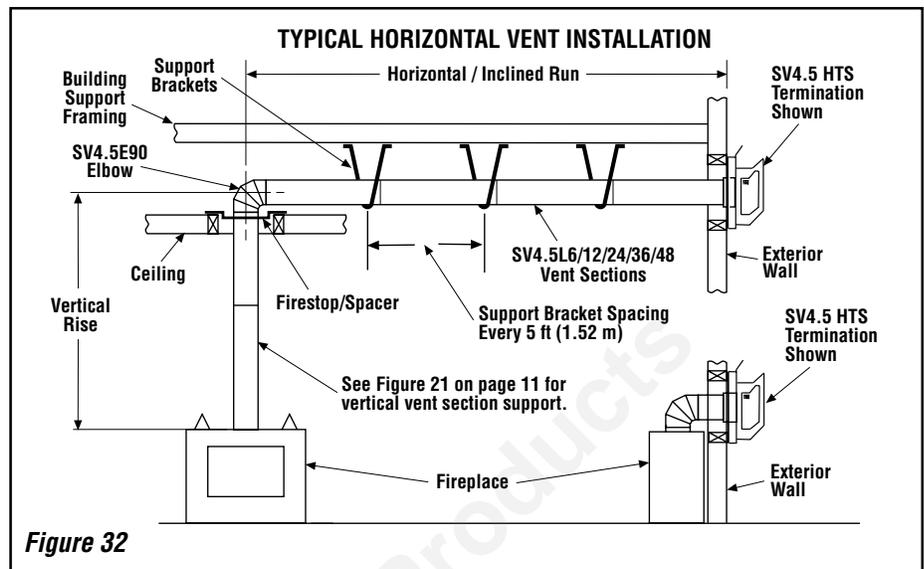

Figure 32
Figure 32, and Figures 36 to 43 on pages 17, 18 and 19 and their associated Horizontal Vent Table illustrate the various horizontal venting configurations that are possible for use with these appliances. **Secure Vent** pipe applications are shown in these figures; **Secure Flex** pipe may also be used. A Horizontal Vent Table summarizes each system's minimum and maximum vertical and horizontal length values that can be used to design and install the vent components in a variety of applications.
I. Continue installation of horizontal/inclined sections - Continue with the installation of the straight vent sections in horizontal/inclined run as described in **Step E**. Install support straps every 5 ft. (1.52 m) along horizontal/inclined vent runs using conventional plumber's tape. See **Figure 32**. **It is very important that the horizontal/inclined run be maintained in a straight (no dips) and recommended to be in a slightly elevated plane, in a direction away from the fireplace of 1/4" rise per foot (20 mm per meter) which is ideal, though rise per foot run ratios that are smaller are acceptable all the way down to at or near level.**